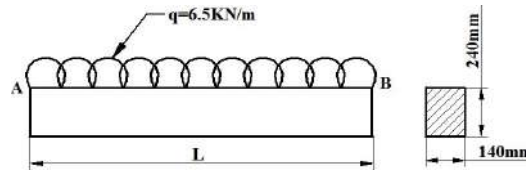

Figure 32
13. Determine the maximum allowable span length "L" for a simple beam as shown in **Figure 32**. The beam is of rectangular cross section (140mmx240mm) subjected to a uniformly distributed load $q=6.5\text{KN/m}$ and allowable bending stress is 8.2Mpa